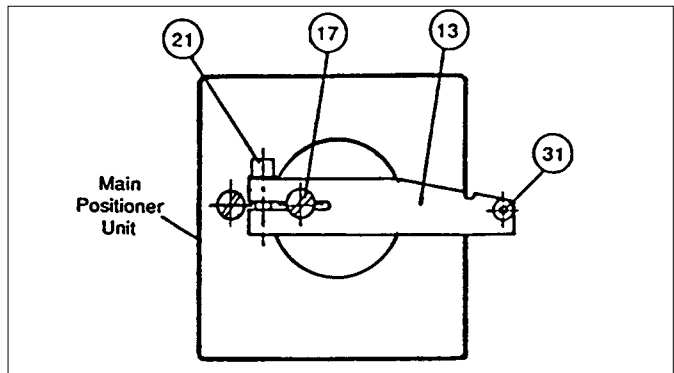

Figure 4 - Rear View
7. Place a thin film of adhesive, glue or pipe thread sealant on the "back" side of cam (24) to secure toothed lock washer (28) to cam (24). Use post end screw (23) to correctly align centers of these three parts (24, 27 & 28); do not allow the post-end screw (23) to adhere to these parts.
8. Using the spacer of step 6., position cam (24) with adhered parts (27 & 28) up to the end of drive coupling (32). Carefully screw-in post-end screw (23) while holding cam (24) in its approximate position. Hand-tighten post-end screw (23) until certain that the washers (27 & 28) have remained in alignment. (If washers (27 & 28) are misaligned, the cam (24) will not be able to be secured.)
9. Using the spacer of Step 6. above, wrench-tighten post-end screw (23) into a preliminary position.
10. As shown in Figure 4, attach the feedback lever (13) onto the positioner unit's main shaft (17) by hand-tightening socket cap screw (21). DO NOT WRENCH TIGHTEN SCREW (21).
- b. Release all tension on range spring (41) by turning zero thumbscrew (39) CCW.
- c. See Figure 4; loosen screw (21) securing the feedback lever (13) on the backside of the unit to the main shaft (17) using a #5 Allen wrench. Manually move the stroke factor lever (19) away from the tip of the stop pin (20) a distance of approximately 1/4"-3/8" using some form of spacer; i.e. folded cardboard, etc. Retighten feedback lever (13) to main shaft (17). Remove the temporary 1/4"- 3/8" spacer.
- e. Press the flapper lever (38) several times to the left and right until the flappers are correctly aligned.
- g. Turn zero thumbscrew (39) CW, increasing tension of range spring (41), until the